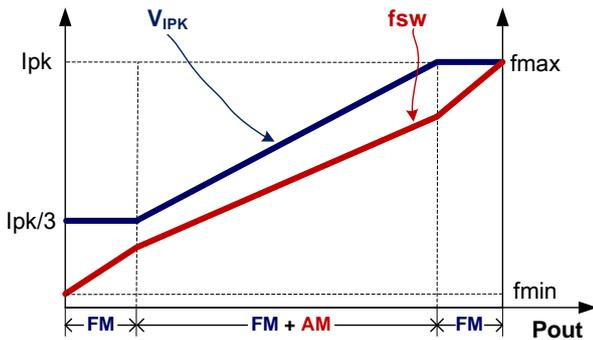

Fig.2
To meet the tight requirement of averaged system efficiency and no load power consumption, a hybrid of frequency modulation (FM) and amplitude modulation (AM) is adopted in KP322X which is shown in the Fig 2.